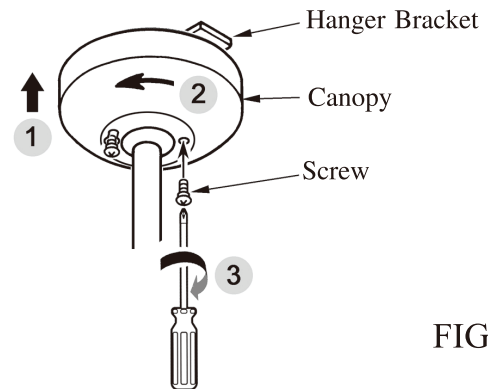

FIG.8
4. Mount the canopy on the hanger bracket and tighten the screws. (See fig.8)